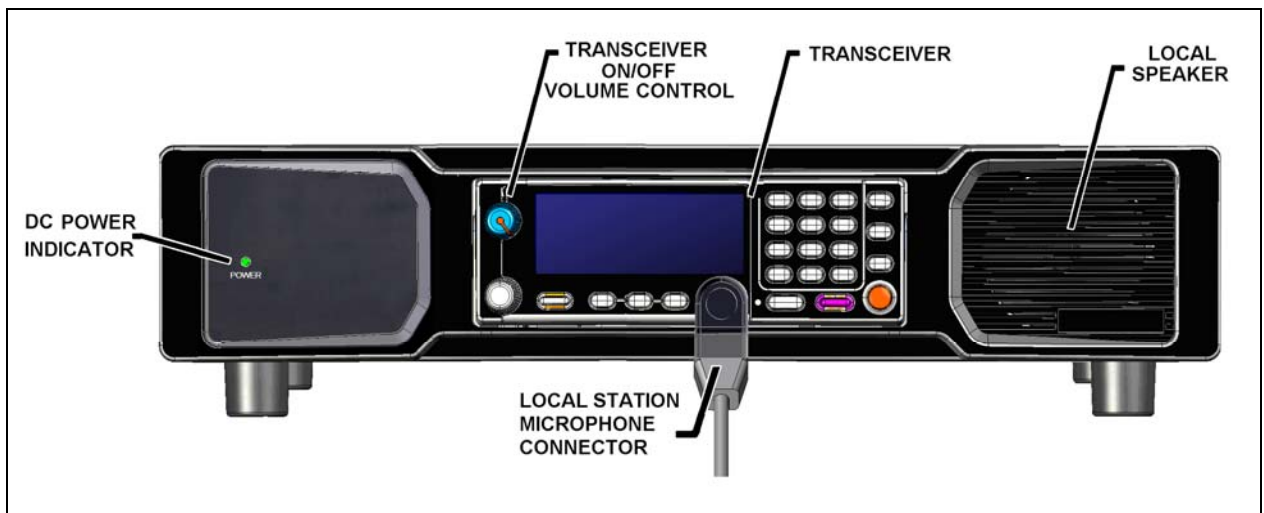

Figure 3-1: Front Panel Features – Local Control Station
Front panel controls, indicators, and other operator features are shown in Figure 3-1. The following are general descriptions of each feature.
The transceiver's microphone connector shown in Figure 3-1 is used for local control stations. Refer to Section 3.2.1 when connecting a microphone to a remote control station.
3. Turn on the transceiver's ON/OFF Power switch (refer to Figure 3-1).